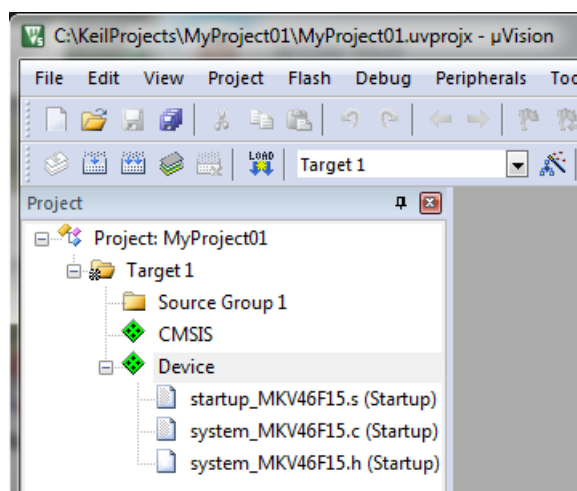

Figure 1-20. Project
10. Click OK, and a new project is created. The new project is now visible in the left-hand part of Keil µVision. See Figure 1-20.
13. Select Use Single Precision in the Floating Point Hardware option. See Figure 1-20.